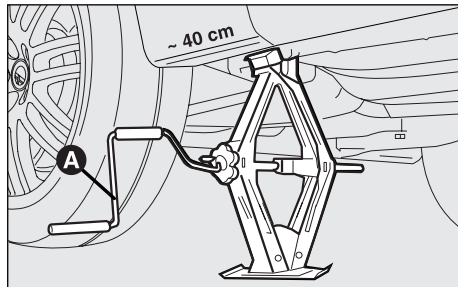
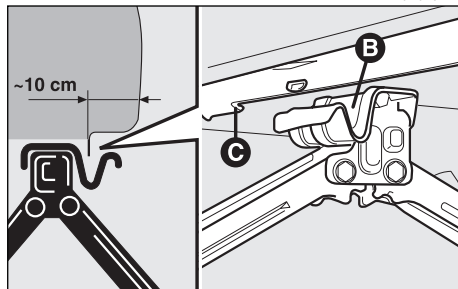

fig. 13
fig. 14
– place the jack under the car near the wheel to be changed (**fig. 13**);
– work the jack crank (**A-fig. 13**), to extend it until the groove (**B-fig. 14**) on the upper part of jack is correctly inserted on the lower profile of the body (**C-fig. 14**) approx. 40 cm from the profile of the wheelhouse;